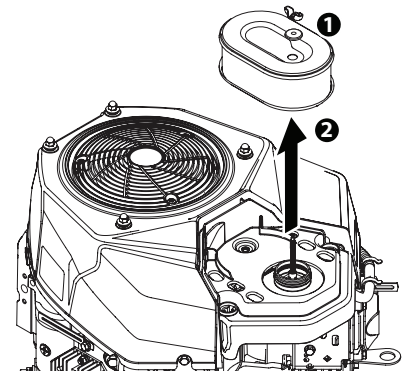

Figure 6-5
This engine is equipped with a spin-on oil filter that should be replaced each time an oil change is performed, every season or 50 hours. Refer to Figure 6-5.
4. Pull up and remove air filter and base seal. See Figure 6-5.